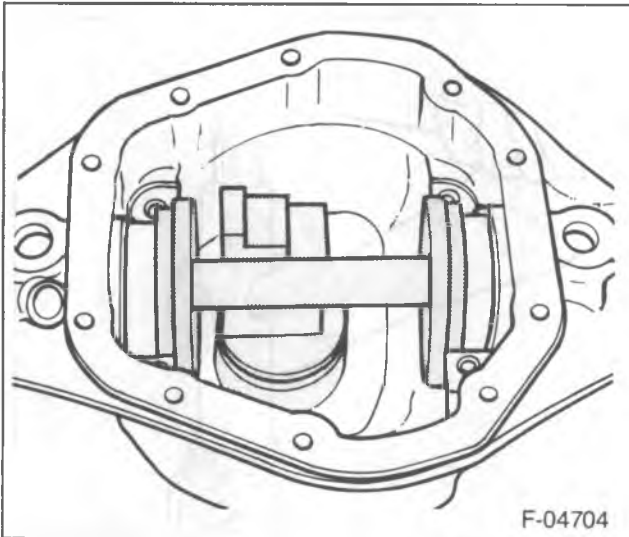

Figure 24—Pinion Height Block
5. Install D-116-1 onto D-120 and against the arbor (figure 24).